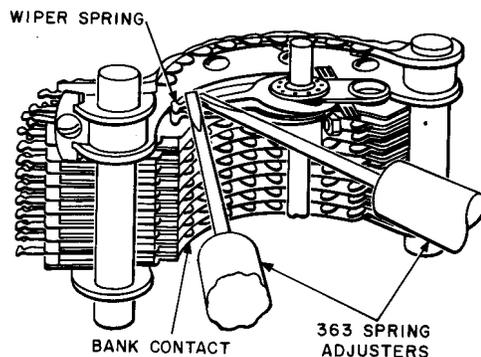

Fig. 11—Method of Adjusting Wiper Springs
- (3) If the position of the wiper tips on the bank contacts or the separation between the wiper tips is not satisfactory, adjust the tips of the springs with the spring adjusters as shown in Fig. 11.